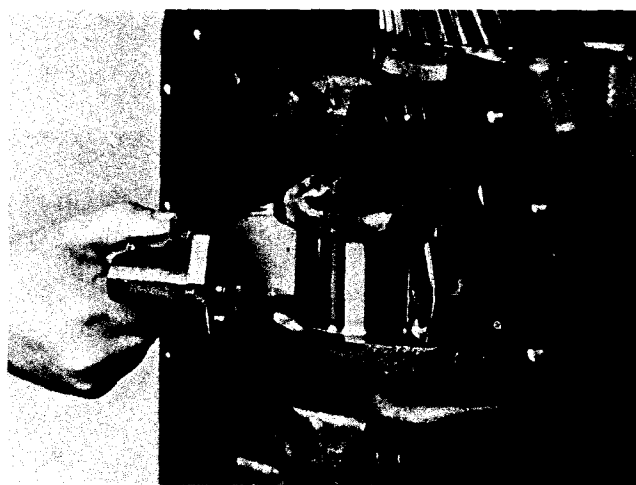

Fig. 14-15, (N114252). Installing connecting rod cap
10. Remove nylon guides and install rod cap with tang side of cap matching tang side of rod. Fig. 14-15.